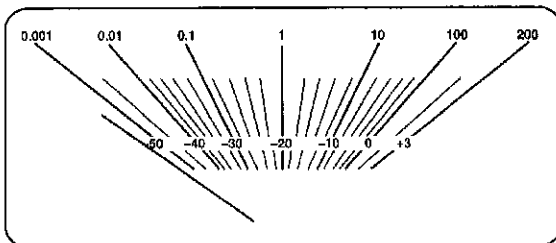

Fig.3
3. Turn the power **ON**, make sure that the power meter is mechanically adjusted to **0** point. (Shown in Fig.3)